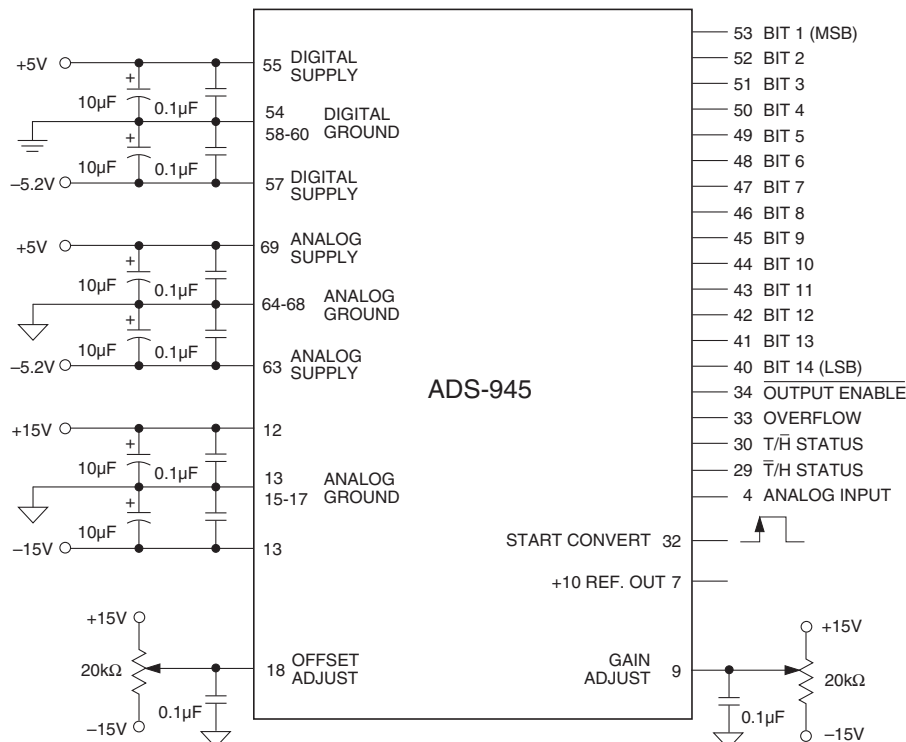

Figure 2. ADS-945 Connection Diagram
- The ADS-945 achieves its specified accuracies without the need for external calibration. If required, the device's small initial offset and gain errors can be reduced to zero using the adjustment circuitry shown in Figure 2. The typical adjustment range is ±0.2%FSR for this circuitry.
CALIBRATION PROCEDURE (Refer to Figure 2 and Table 1)
Any offset and/or gain calibration procedures should not be implemented until devices are fully warmed up. To avoid interaction, offset must be adjusted before gain. The ranges of adjustment for the circuit in Figure 2 are guaranteed to compensate for the ADS-945's initial accuracy errors and may not be able to compensate for additional system errors.